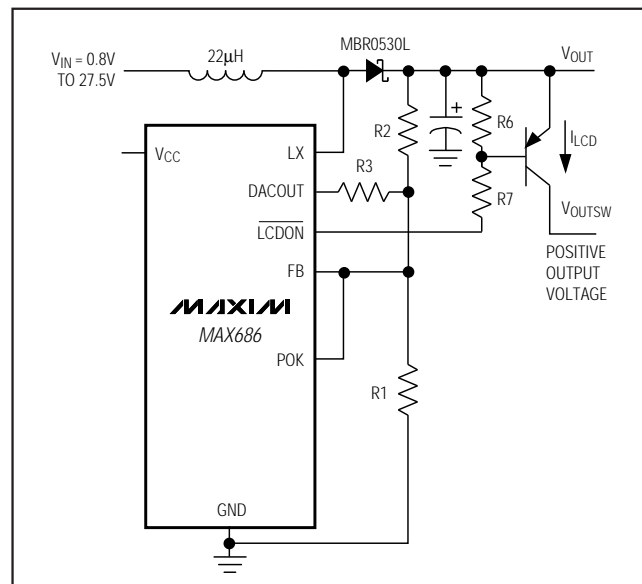

Figure 7. Using the POK for Output Voltage Monitoring
- *An output-sensing cutoff for positive outputs.* Connect POK to the feedback voltage divider to sense the output voltage. The output switches on only when it reaches 90% of the set voltage (Figure 7).
For positive output voltage sensing, connect POK directly to FB to monitor the output voltage (Figure 7). The POK threshold is 10% less than the set voltage at FB. Therefore, when the output voltage drops 10% below its set value, the POK circuit turns off the external PNP transistor, disconnecting the load.